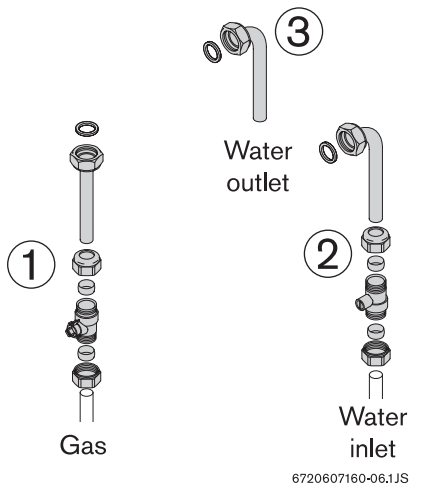

Fig. 9
12.1.1 Unpack the appliance and take care to remove the fascia and the installation kit which are located on the top and on the bottom of the polystyrene packing. Remove the White painted Flue Elbow inclusive of sealing rings. The installation kit (Fig. 9) consists of the following: